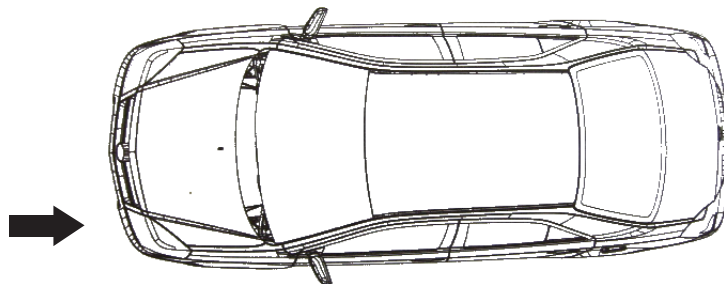

Fig. 5-14 Front External Force or Left External Force
2. Front External Force or Left External Force (Fig. 5-14)
As shown in Fig. 5-14, when the front is pressed or the left side end is acted by the external force, the external force will spread to around the front suspension mounting position from the left/right side of the hood, so deformation occurs easily in this position.